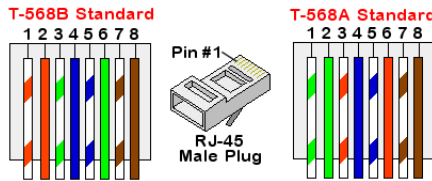

Figure 27: Standard cable wiring
- c. Insert the eight wires into an RJ45 connector, as described in *Figure 27*.
7. For the switch/router side, use a pre-crimped cable or use a crimper to prepare an RJ45 communication connector: Insert the eight wires into the RJ45 connector in the same order as above (*Figure 27*).